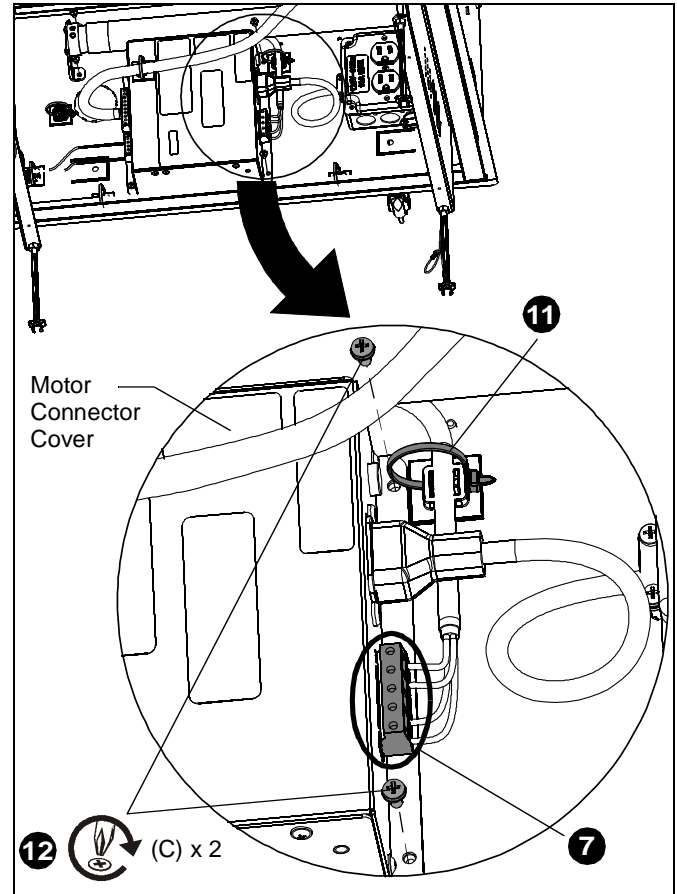

Figure 4
7. Plug motor into control box. (See Figure 4)
11. Add cable tie to hold motor wiring in place. (See Figure 4)
12. Replace motor connector cover and reinstall two Phillips screws (removed in Step 7 of **Removing Motor** section), or two Phillips 8-32 x 5/16" screws (C). (See Figure 4)